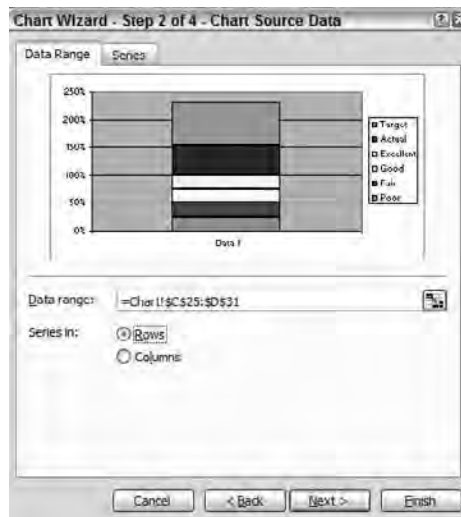

Figure 24.7: Selecting Series In Rows places the columns on top of one another.
4. In Step 2 of 4 of the Chart Wizard, select the Series In Rows option on the Data Range tab. The Chart Wizard will show the column stacked as in Figure 24.7. Choose Finish.
3. Select the chart, and in the Chart Tools ribbon, on the Design Tab, in the Data group, click the Switch Row/Column button. Your chart should now look similar to Figure 24.7.